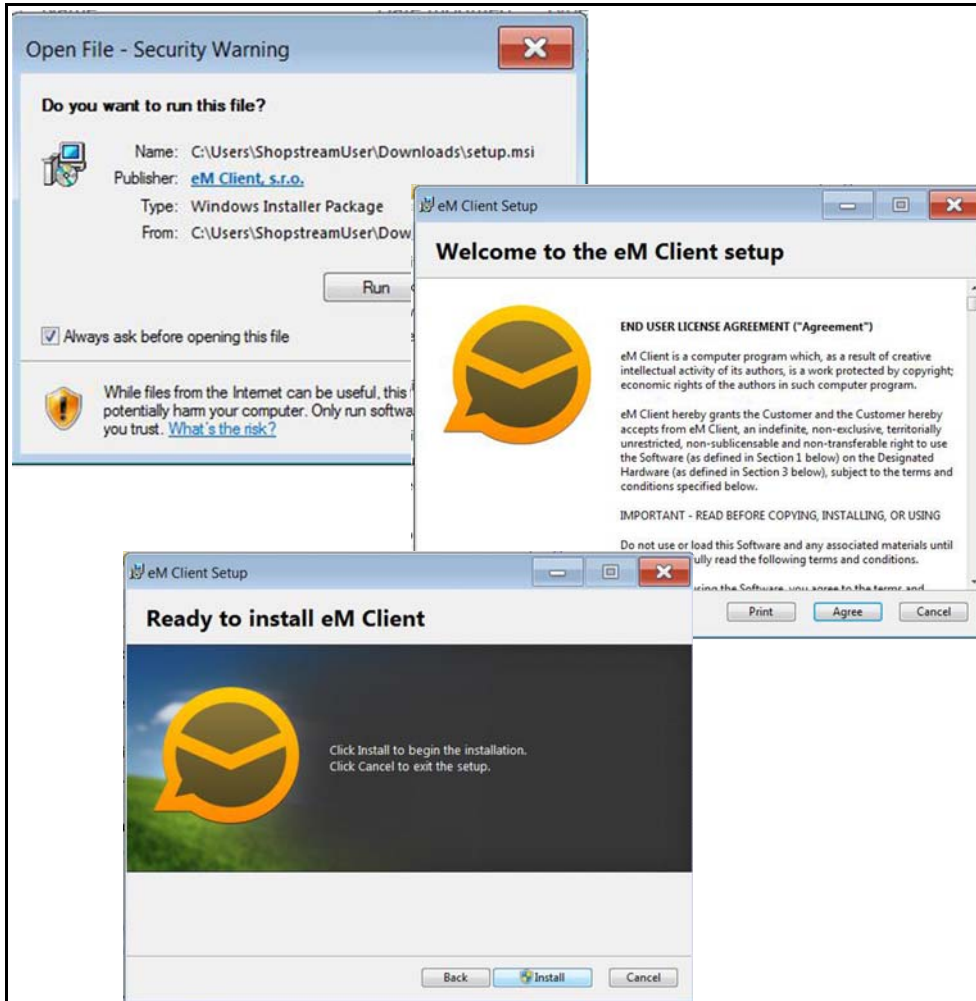

Figure 1-11
2. Install the software following the screen prompts (Figure 1-11).